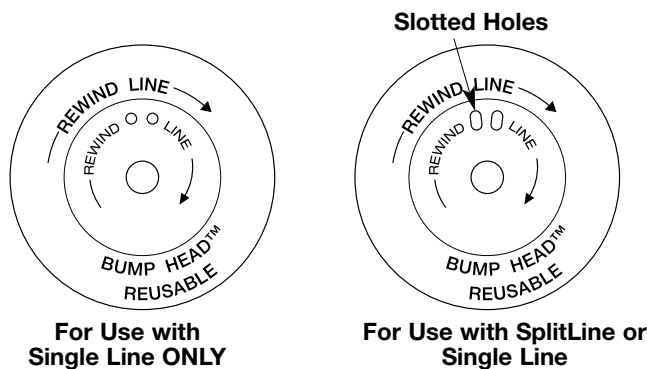

Figure 21
**NOTE:** SplitLine™ can only be used with the inner reel with the slotted holes. Single line can be used on either type of inner reel. Use figure 21 to identify the inner reel you have.